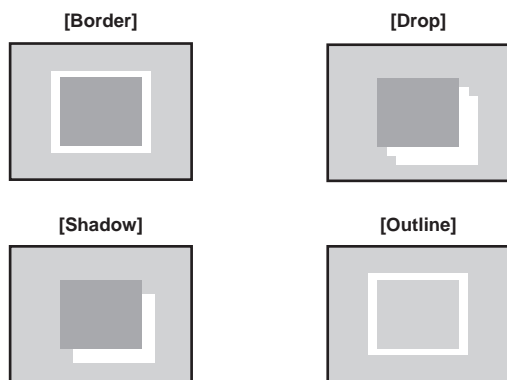

Fig. 1
- 2 Select an item in [Type] in the [Edge] column. (Fig. 1)